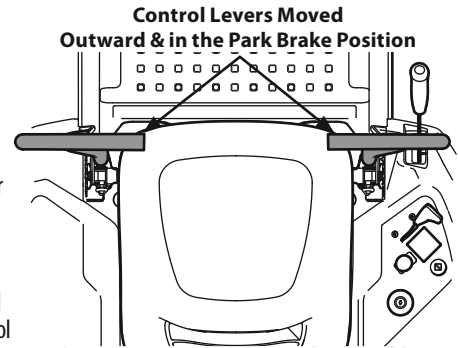

Figure 17
1. Operator should be sitting in the tractor seat with the lapbar drive control levers fully out and in the park position. See Figure 17. Refer to Practice Operation for further instructions.